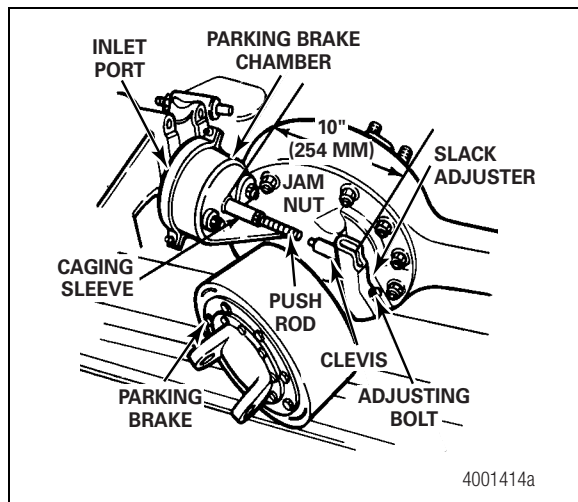

Figure 5.26
5. Rotate the push rod clevis until the center of the clevis pin hole is 10-inches (254 mm) from the chamber non-pressure plate. Tighten the jam nut. Figure 5.26.